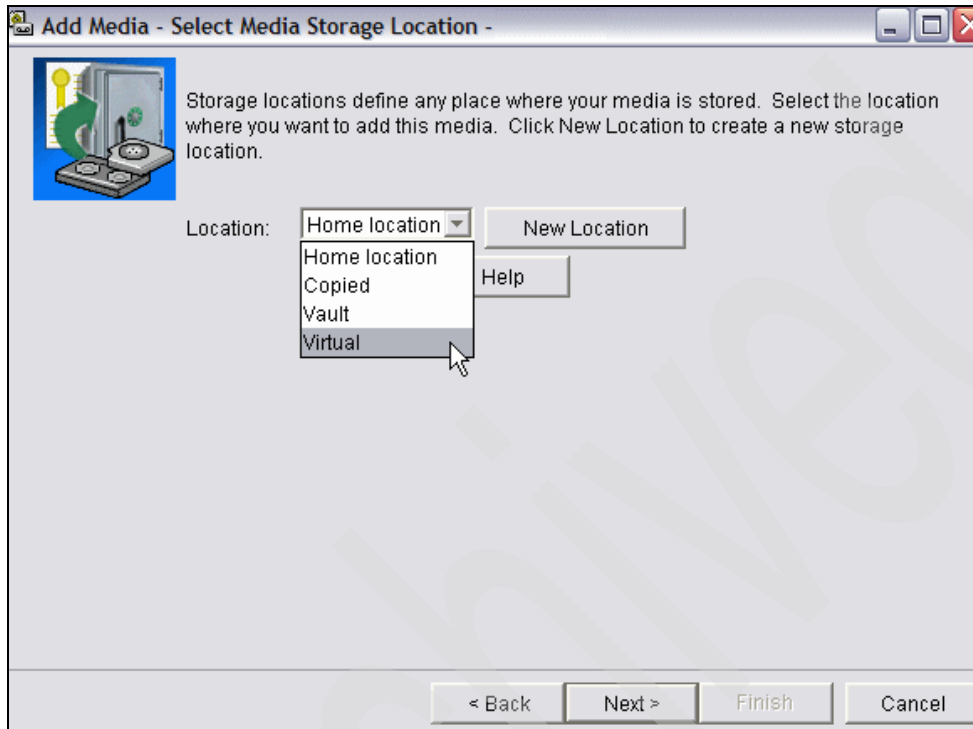

Figure 7-51 BRMS adding media, select location
7. Add virtual volumes to location VIRTUAL by using the drop-down menu against Location in the Select Media Storage Location window. Select location **Virtual**, and click **Next**, as shown Figure 7-51.